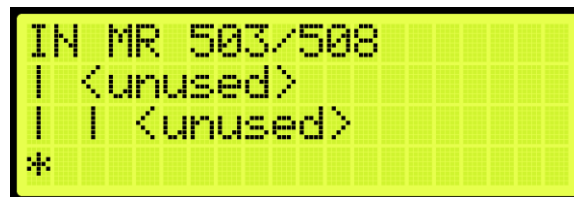

Figure 401: Unused Input/Output
- The number on top indicates which input/output is currently being viewed. For example, Figure 401 shows an example of an unused input.